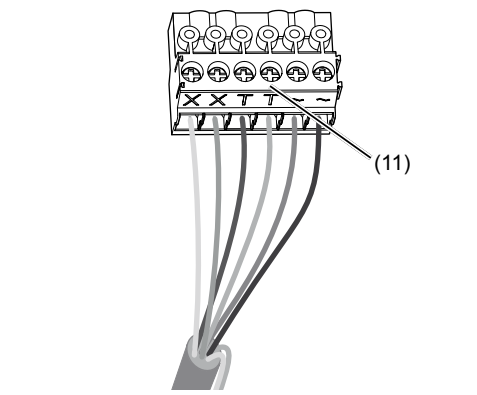

Figure 8: wired connection terminal block
- (21) Safety rope
- (22) Upper fastening element
- Pull off connection terminal block (11) from the video insert.
- Connect the 2-wire bus cable to the terminals XX of the connection terminal block (Figure 8).
- Connect door release to the terminals TT of the connection terminal block (figure 8 and 9) if required.
- For call push-button backlighting and camera heating connect 12 V~ lead from the power transformer to the terminals ~ of the connection terminal block (Figure 8).